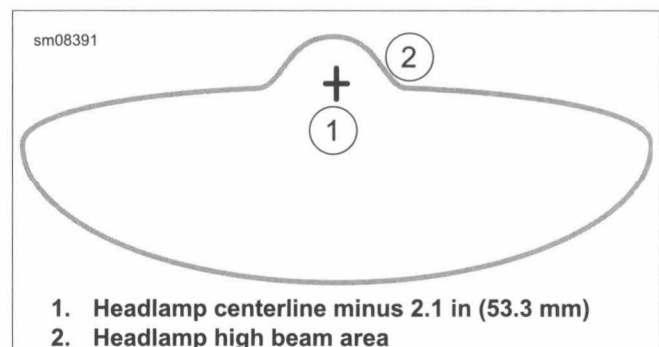

Figure 1-53. Headlamp Pattern: Frame-Mounted Fairing Models
- c. **LED, frame-mounted fairing:** See Figure 1-53. Center of hot spot at mark with headlamp set to **high beam**.
- b. See Figure 1-53. Adjust headlamp light beam.